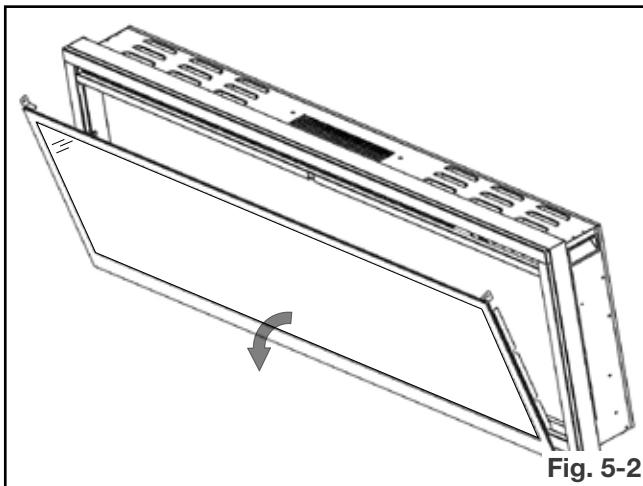

Fig. 5-2
- Remove the front glass, placing it face down on a soft, non-abrasive surface (**Fig. 5-2**).